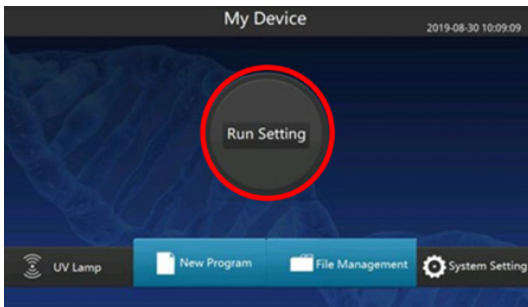

Figure 6 :Main control interface of the CleanXtract 96 with Run Setting shown in the red circle.
6. Select "Run setting" in the middle of the CleanXtract 96 display as shown in Figure 6.